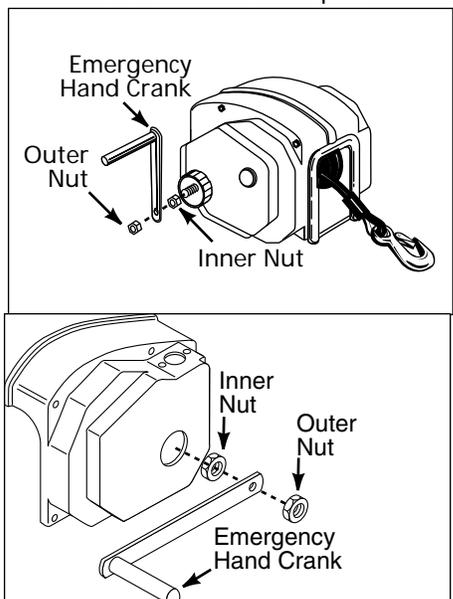

Figure 4 Emergency Hand Crank Assembly
- 2. Turn the clutch control knob clockwise until tight. DO NOT overtighten the knob or clutch damage will occur (See Figure 4).
- 3. Remove the outer nut shown in Figure 4 and place the emergency hand crank on the shaft.
1. Remove the outer nut shown in Figure 4 and remove the emergency hand crank off the shaft.